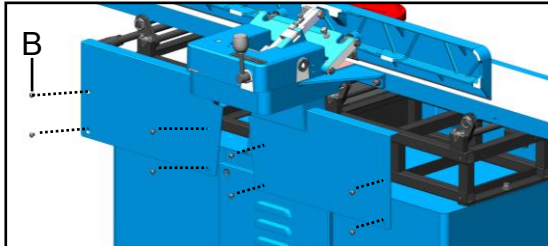

Fig. 12
1. Loosen 8 screws (B, Fig. 12) on the rear cover by 4mm Hex. wrench, take off the rear cover.